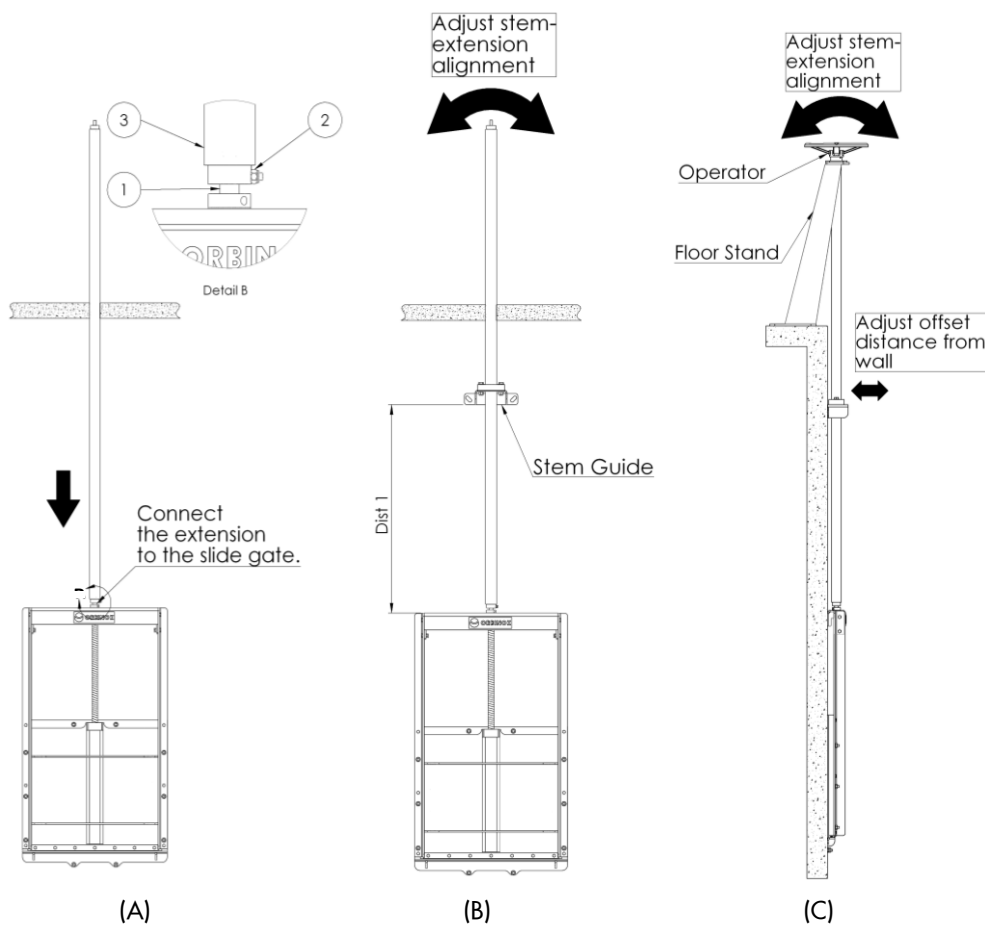

Figure 10
1. Connect the stem extension (item 3) to the shaft (item 1) on top of the yoke (see Figure 10-A, Detail B)
2. Insert all stem guides from the top of the stem extension. Align stem extension, and especially make sure that it is aligned with the vertical axis of the opening (see Figure 10-B)
3. Next, install all stem guides. (drill and tighten anchor bolts). Refer to General Arrangement Drawing for dimensions ("Dist 1" in Figure 10)
4. Position the floor stand and the operator. Engage the shaft of the stem extension with the operator. Make sure that the stem extension is perfectly aligned and parallel to the wall surface, adjusting the offset if necessary of the Stem-Guides' (U)HMWPE inserts (see Figure 10-C). Once, the stem extension is perfectly aligned, install the floor stand (drill and tighten anchor bolts)